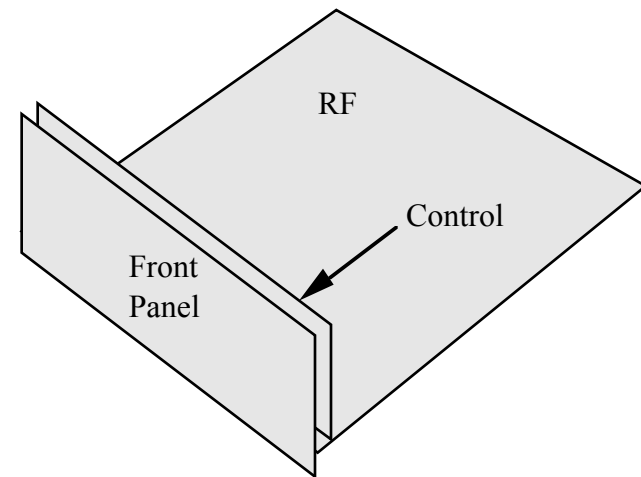

Figure 3-2
As shown in Figure 3-2, there are three printed circuit boards (PCBs) in the basic K2 kit: the Front Panel board, Control Board, and RF board.
- three printed circuit boards (Figure 3-2)